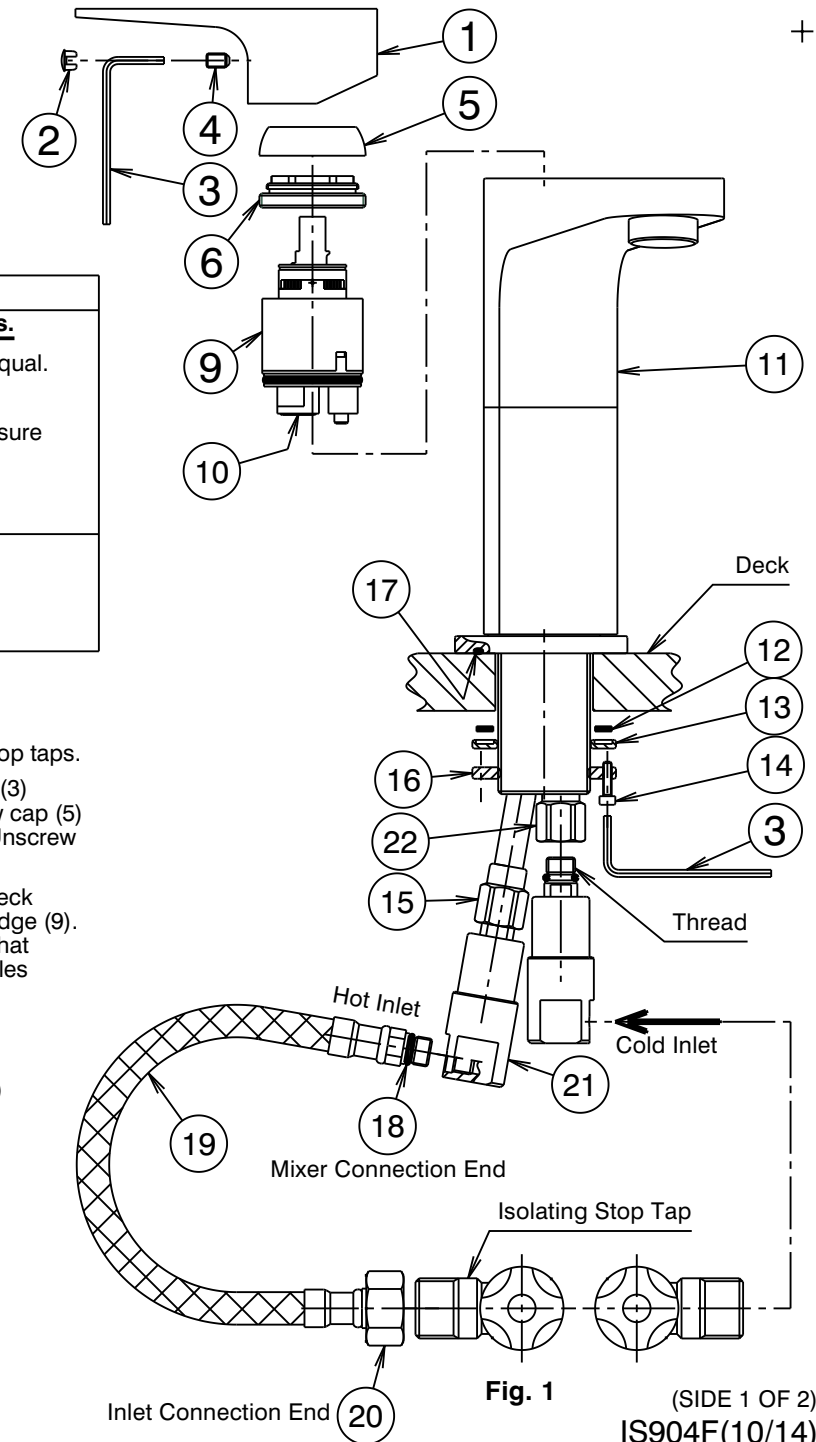

Fig. 1
- 1) From fixing pack fit base seal (17) into groove in base of mixer (11). Assemble screws (14) into clamp ring (16), the threaded end of each screw should be just protruding from the clamp ring. Fit flat seal (12) into groove in washer (13).
- 2) Place mixer into deck hole, fit washer (13) together with flat seal (12) over threaded tail of mixer as shown in Fig. 1. Screw clamp ring (16) onto threaded tail until it contacts washer (13) & the flat seal (12) has contacted the underside of the deck. Tighten 3 screws (14) equally using a 3mm allen key (3) until mixer is clamped firmly to the deck. DO NOT OVERTIGHTEN.
- 3) Assemble the threaded end of one swivel union connector (21) into the fitting on the short inlet tail (22) & tighten with a 9.0mm (or 3/8") A/F spanner using the flats provided. **Note:** Jaws of spanner must be less than 4mm in thickness to ensure access to spanner flats. Assemble the remaining swivel union connector (21) into the fitting on the long inlet tail (15) in a similar manner.
- 4) *Flexible Tail Mixer Connections:* Apply suitable lubricant to 'O' rings (18). Fit flexible tail (19) (with red indication) into inlet of swivel union (21) (fitting (15) is marked with a Red Dot). Hand tighten the tail, ensuring the 'O' ring (18) has fully entered the sealing bore to provide a watertight joint. Fit other flexible tail (with blue indication) into remaining union in a similar manner.
- 5) *Flexible Tail Inlet Connections:* Connect the flexible tails (19) to the hot and cold isolating stop taps, hand tighten the connecting nut (20) until rubber cone contacts the sealing face of the connection end, then tighten a further one turn to provide a watertight joint.
Important: Position the outlet of each isolating stop tap (Fig. 1) to ensure that flexible tails (19) do not restrict the free rotation of the inlet swivel unions (21). Flexible tails must not be kinked, twisted or in tension when installed. (Minimum Bend Radius:- 50mm)